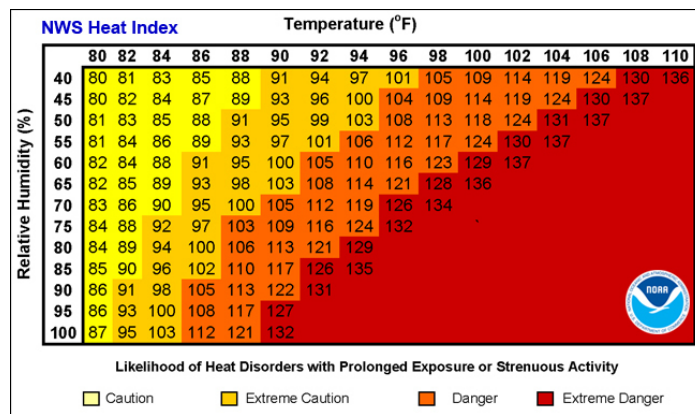

Figure 1: Heat Index
- 5.4.3.** The heat index in Figure 1, Heat Index is used to estimate heat-related risks to workers.